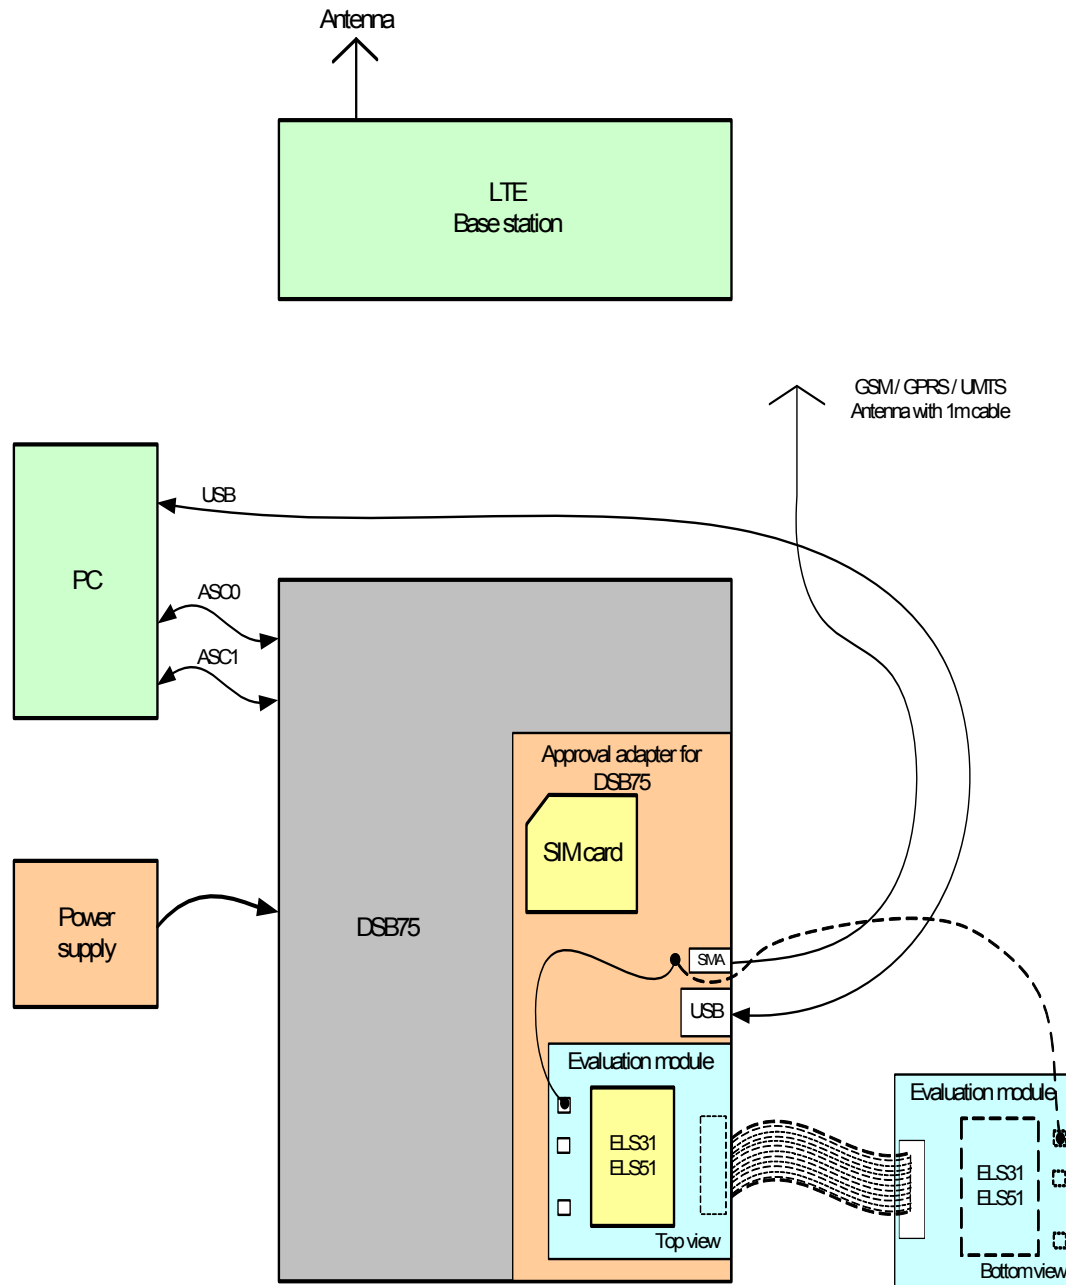

Figure 16: Reference equipment for Type Approval
1. For RF performance tests a mini-SMT/U.FL to SMA adapter with attached 6dB coaxial attenuator is chosen to connect the evaluation module directly to the GSM/UMTS test equipment instead of employing the SMA antenna connectors on the ELS31-US/ELS51-US-DSB75 adapter as shown in Figure 16. The following products are recommended: